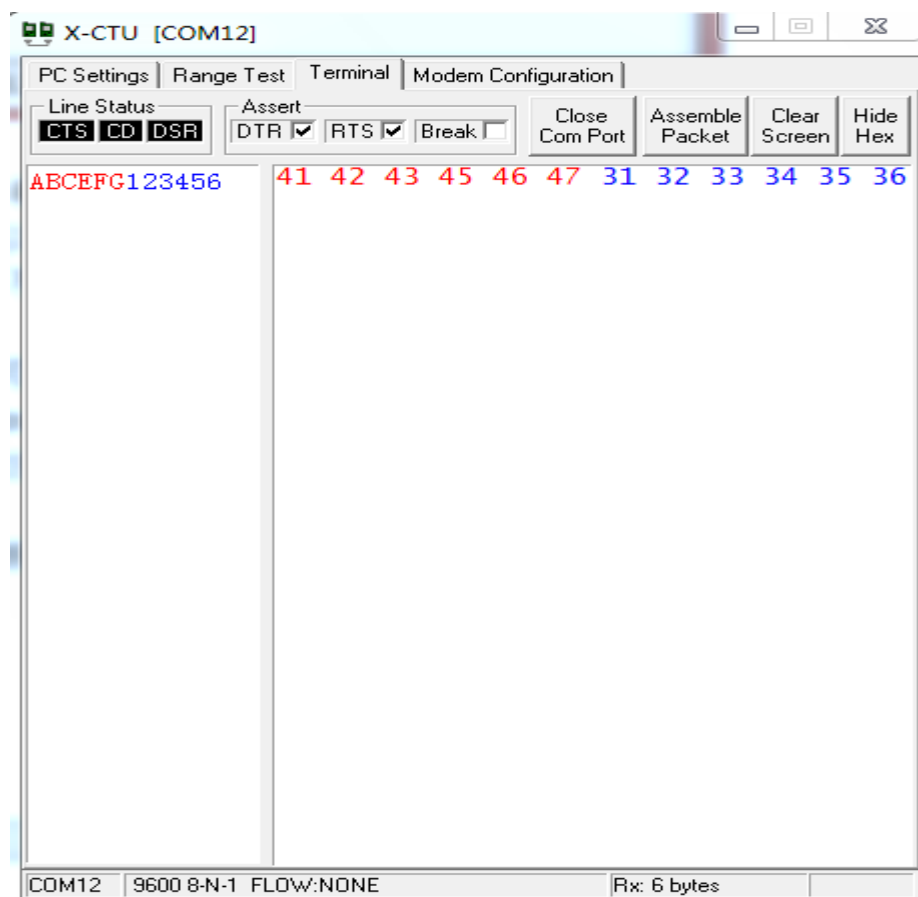

Figure 13: Data transmission and receive
- 6) Figure 13 shows the normal operating state of XBee module.